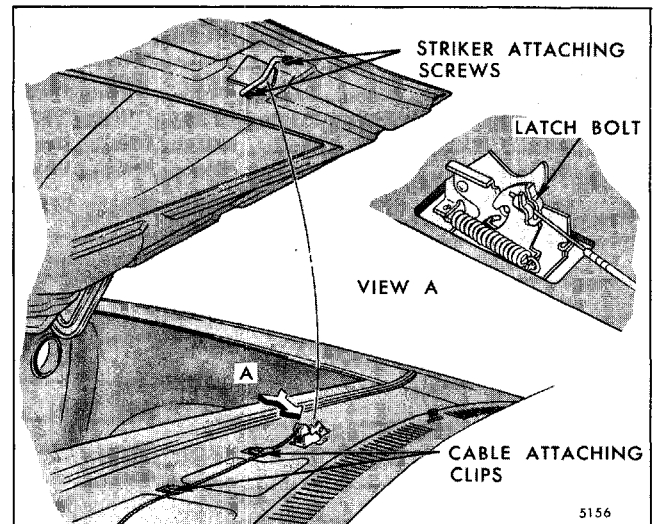
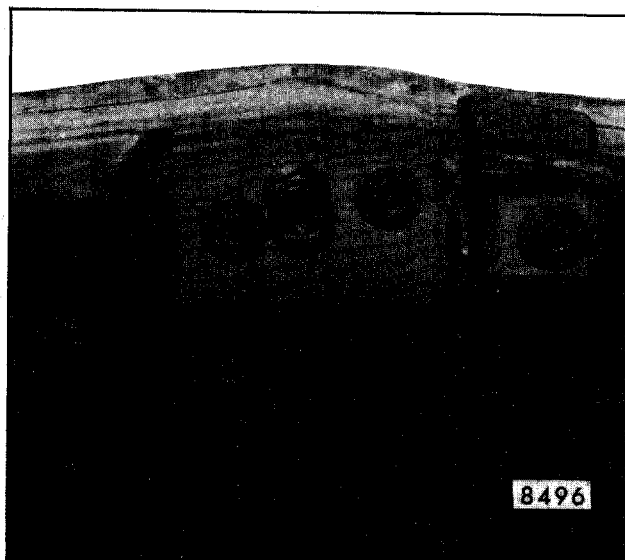

Fig. 4-25-Hood Latch and Hood Latch Striker - "H-11, 15 and 77" Styles
Fig. 4-26-Hood Latch Striker - "H-07,27"
1. Raise hood and remove striker attaching screws. Remove striker (Fig. 4-25 for all "H" less "07,-27", Fig. 4-26 for "H-07, 27" style).
2. With hood open, remove clips securing hood latch release cable to shroud upper panel (Fig. 4-25).
through hole in side shroud panel and route cable through plenum and up over top of shroud panel (Figs. 4-25 and 4-29).